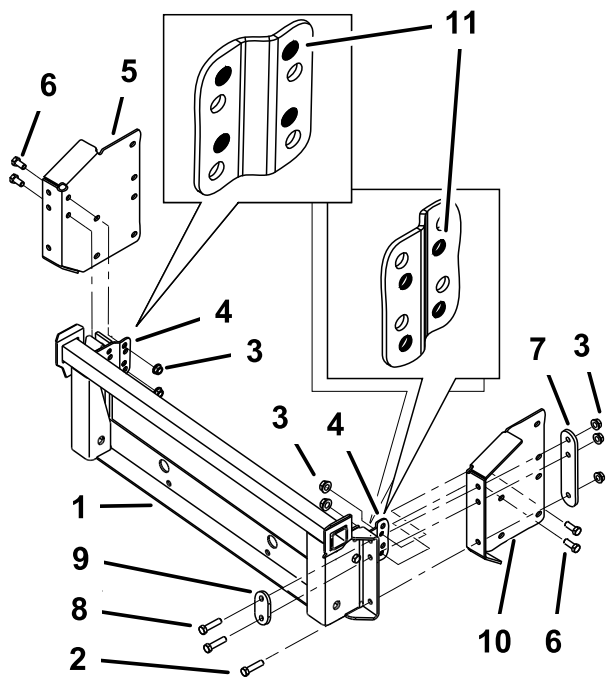

Figure 11
1. Install the side brackets to the bagger mounting bracket (Figure 11).
2. In the top two holes, install 2 bolts (3/8 x 1-1/2 inches), 2 flange nuts (3/8 inch), 2 long frame spacers, and one short frame spacer (Figure 11).
Note: Make sure the long frame spacers are installed as shown in Figure 11).
3. In the bottom hole, install a bolt (3/8 x 1-1/4 inches) and a flange nut (3/8 inch) (Figure 11).
4. Install a bracket stiffener to the side bracket and bagger mounting bracket. Use 4 bolts (3/8 x 3/4 inch) and 4 flange nuts (3/8 inch) (Figure 11).
5. Repeat the previous steps for the opposite side (Figure 11).
2. Tighten the bagger mounting bracket to the side brackets (Figure 11).
3. Tighten the bracket stiffeners to both the side plates and the bagger mounting bracket (Figure 11).